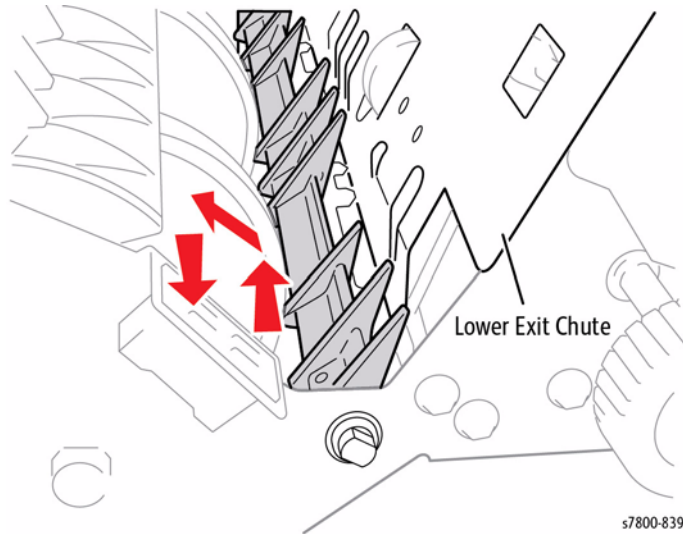

Figure 2 Removing the Buffer Gate
6. Remove the Buffer Gate in the direction of the arrows as shown in Figure 2.